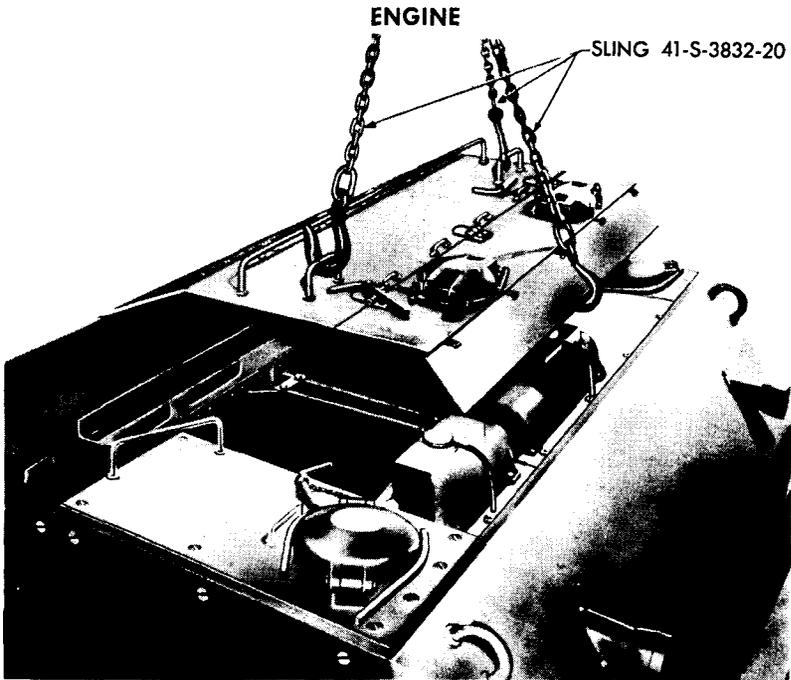

Figure 26 — Removing Engine Compartment Cover
(6) **REMOVE ENGINE COMPARTMENT COVER.** Index turret 90 degrees from straight-ahead position. Remove five screws holding grille to engine compartment cover, and remove grille. Take out nine cover mounting screws. Attach sling (41-S-3832-70) (fig. 26) and lift engine compartment cover.